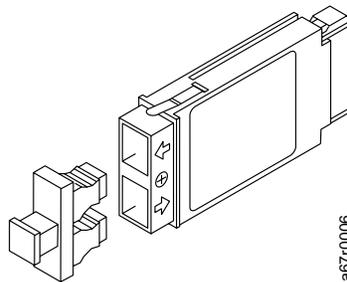

Figure 1-2. Gigabit interface converter (GBIC) module with dust protector
The gateway is the interface between the tape library and the SAN or Fibre Channel server. It provides Fibre Channel connectivity to the SCSI tape drives and SCSI medium changer in the library. Two Fibre Channel ports are available on the gateway. Each port is equipped with a gigabit interface converter (GBIC) module that lets you connect a fiber cable. The GBIC can transmit data at up to 2 Gbits per second by using a short-wave, multimode, subscriber connector (SC). Figure 1-2 shows the GBIC module.